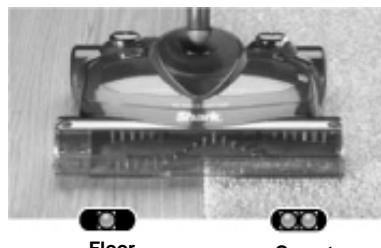

Fig. 10
4. To change the speed of the brush roll, press the speed control button once. One light "On" indicates the unit is on the optimal speed for cleaning hard floors. Two lights "On" indicate the unit is on the optimal speed for cleaning carpets. (Fig. 10)